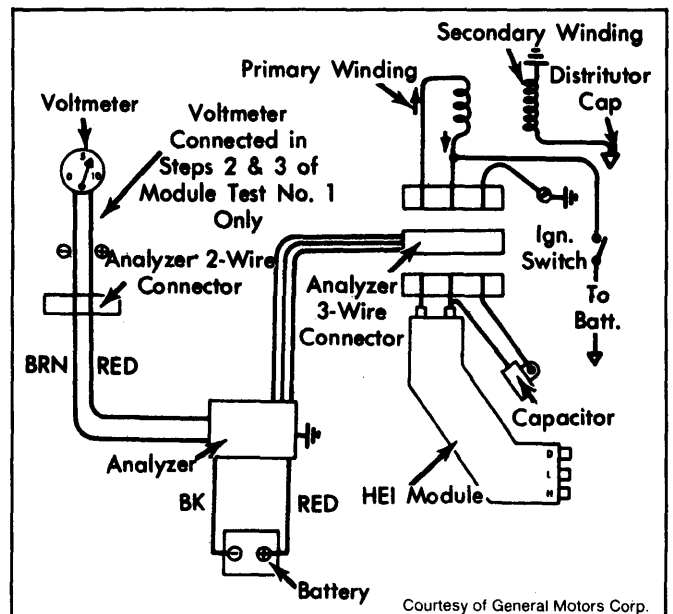

Fig. 6: Analyzer Connections for Module Test No. 1
2) Connect a voltmeter to analyzer 2-wire connector. Turn ignition on. Voltmeter reading should be zero volts. Press and hold test button down on analyzer. Voltmeter should read zero volts. If voltmeter indicates voltage, replace module. See Fig. 6.